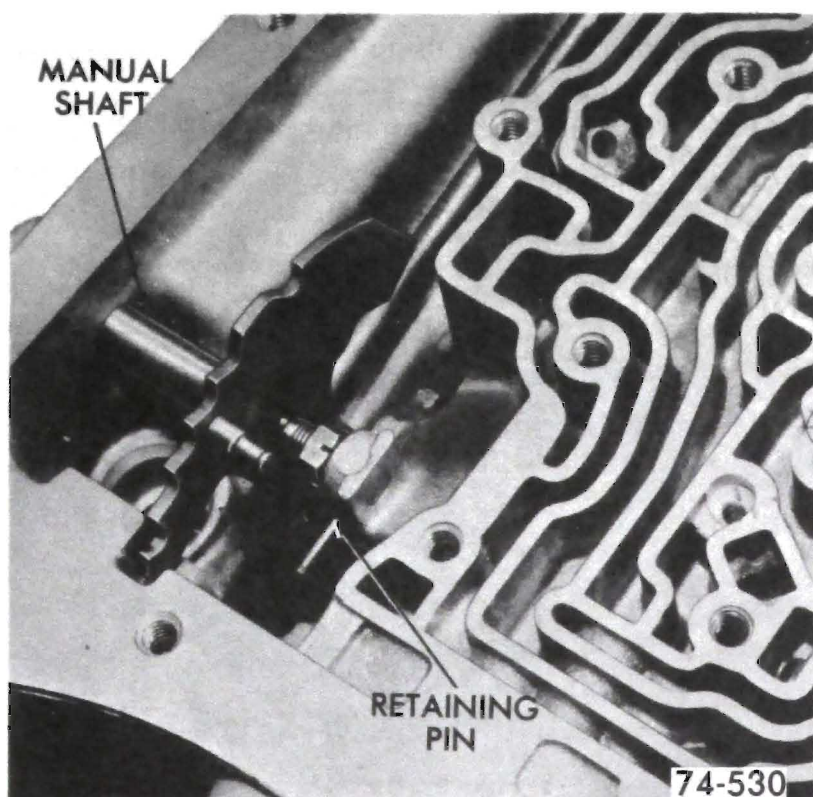

Figure 76-264
6. Install manual shaft retaining pin indexing with groove in manual shaft. See Figure 76-264.